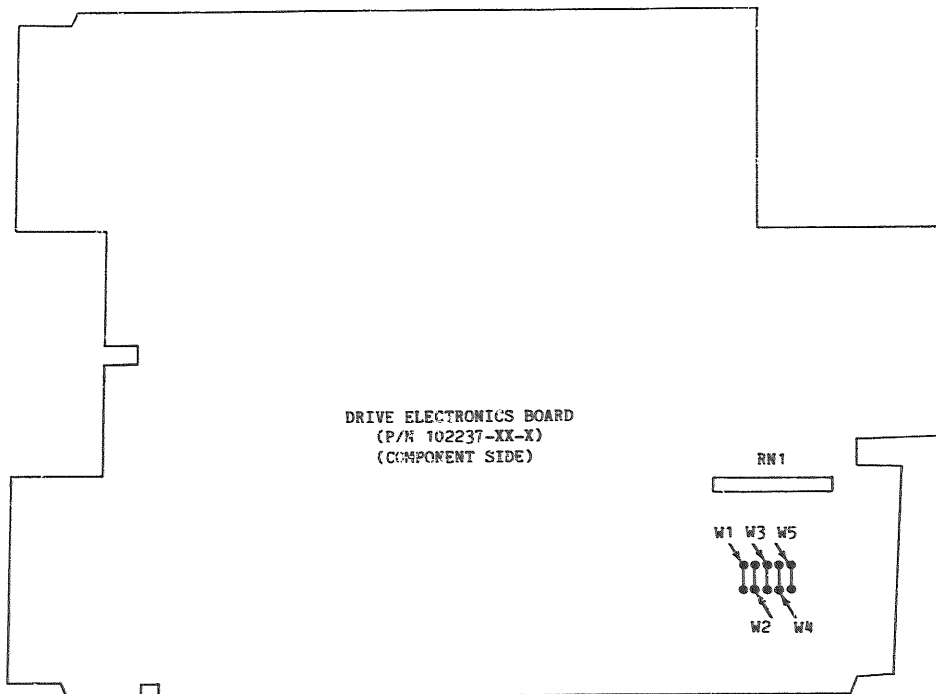

Figure 2-3. Drive Electronics Board Address Jumpers and Terminators
- a. Determine which of jumpers W1 through W5 on the Drive Electronics board (see Figure 2-3) are installed. These jumpers specify the drive's address. Only ONE of the jumpers W1 through W4 may be installed on a drive (note that jumper W5, which can be installed in a single-drive system to have the drive always selected, cannot be used in a multi-drive system).
- a. Locate the terminator resistor pack (RN1, see Figure 2-3).